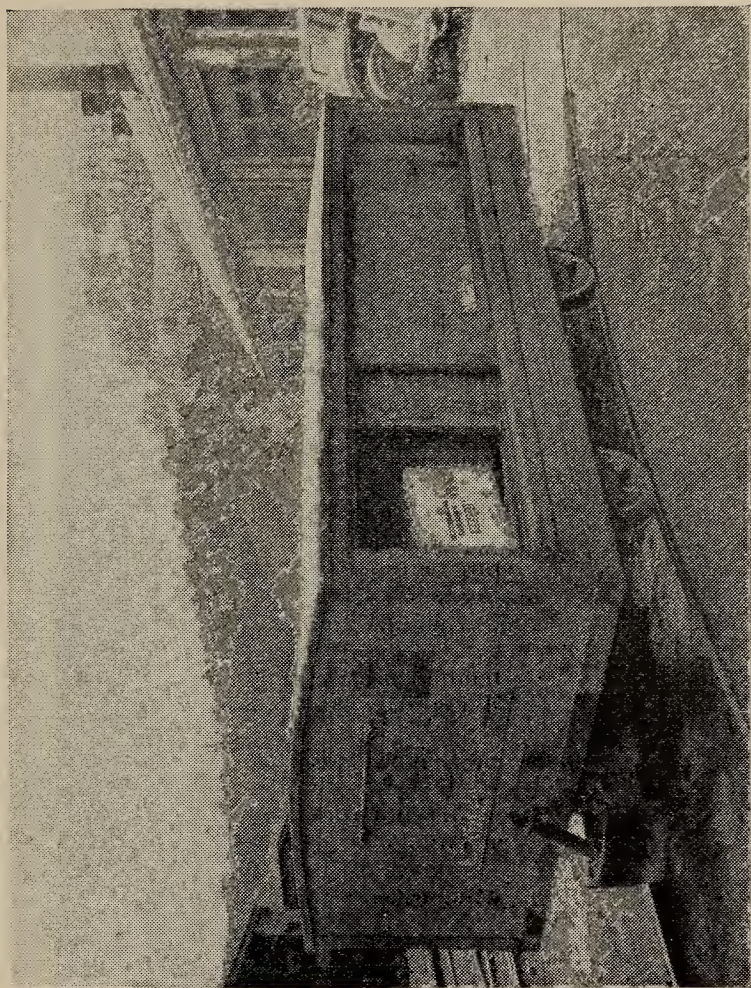

FIGURE 44.—Explosives should be transported into the mine in well-constructed, insulation-lined explosives cars.
A. They should be enclosed in nonconducting boxes and carried separately from firing devices. (See figs. 44 and 45.)